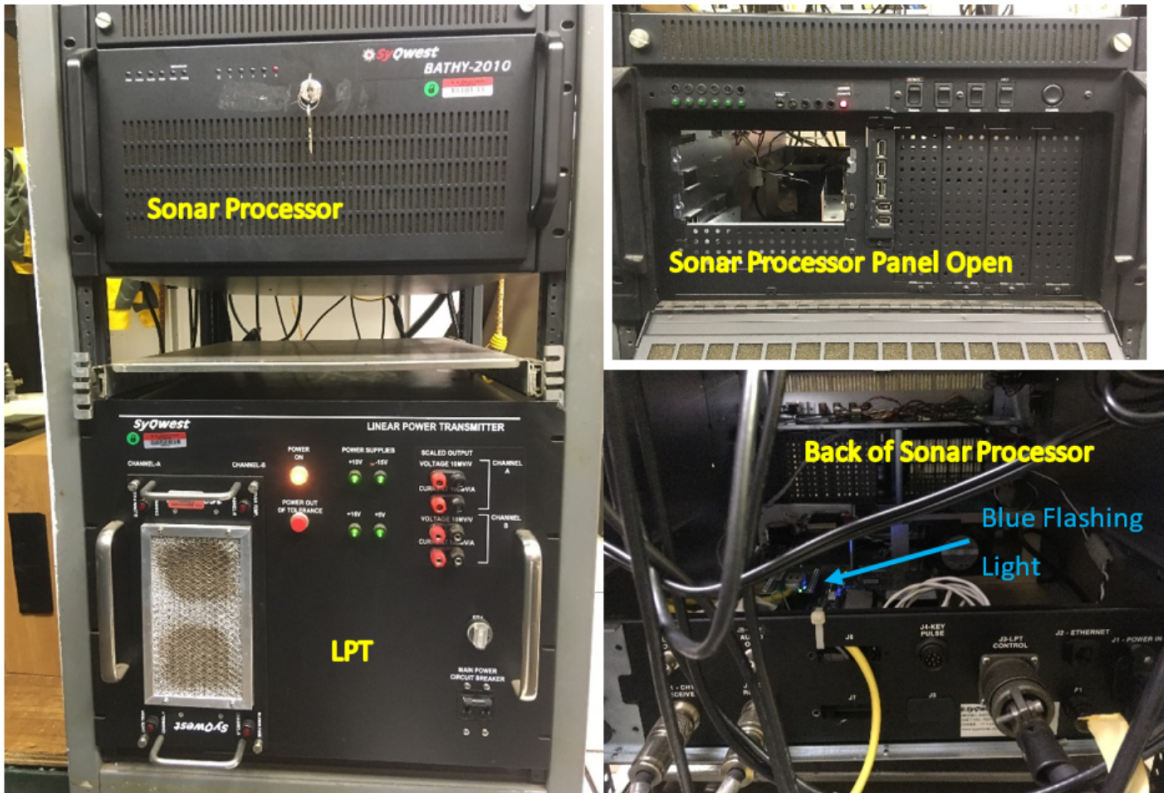

Figure 1: BATHY/Sonar Hardware
- From a cold start switch on the Linear Power Transmitter (LPT) via the circuit breaker switch on the bottom right corner of the LPT front panel (*Figure 1*).